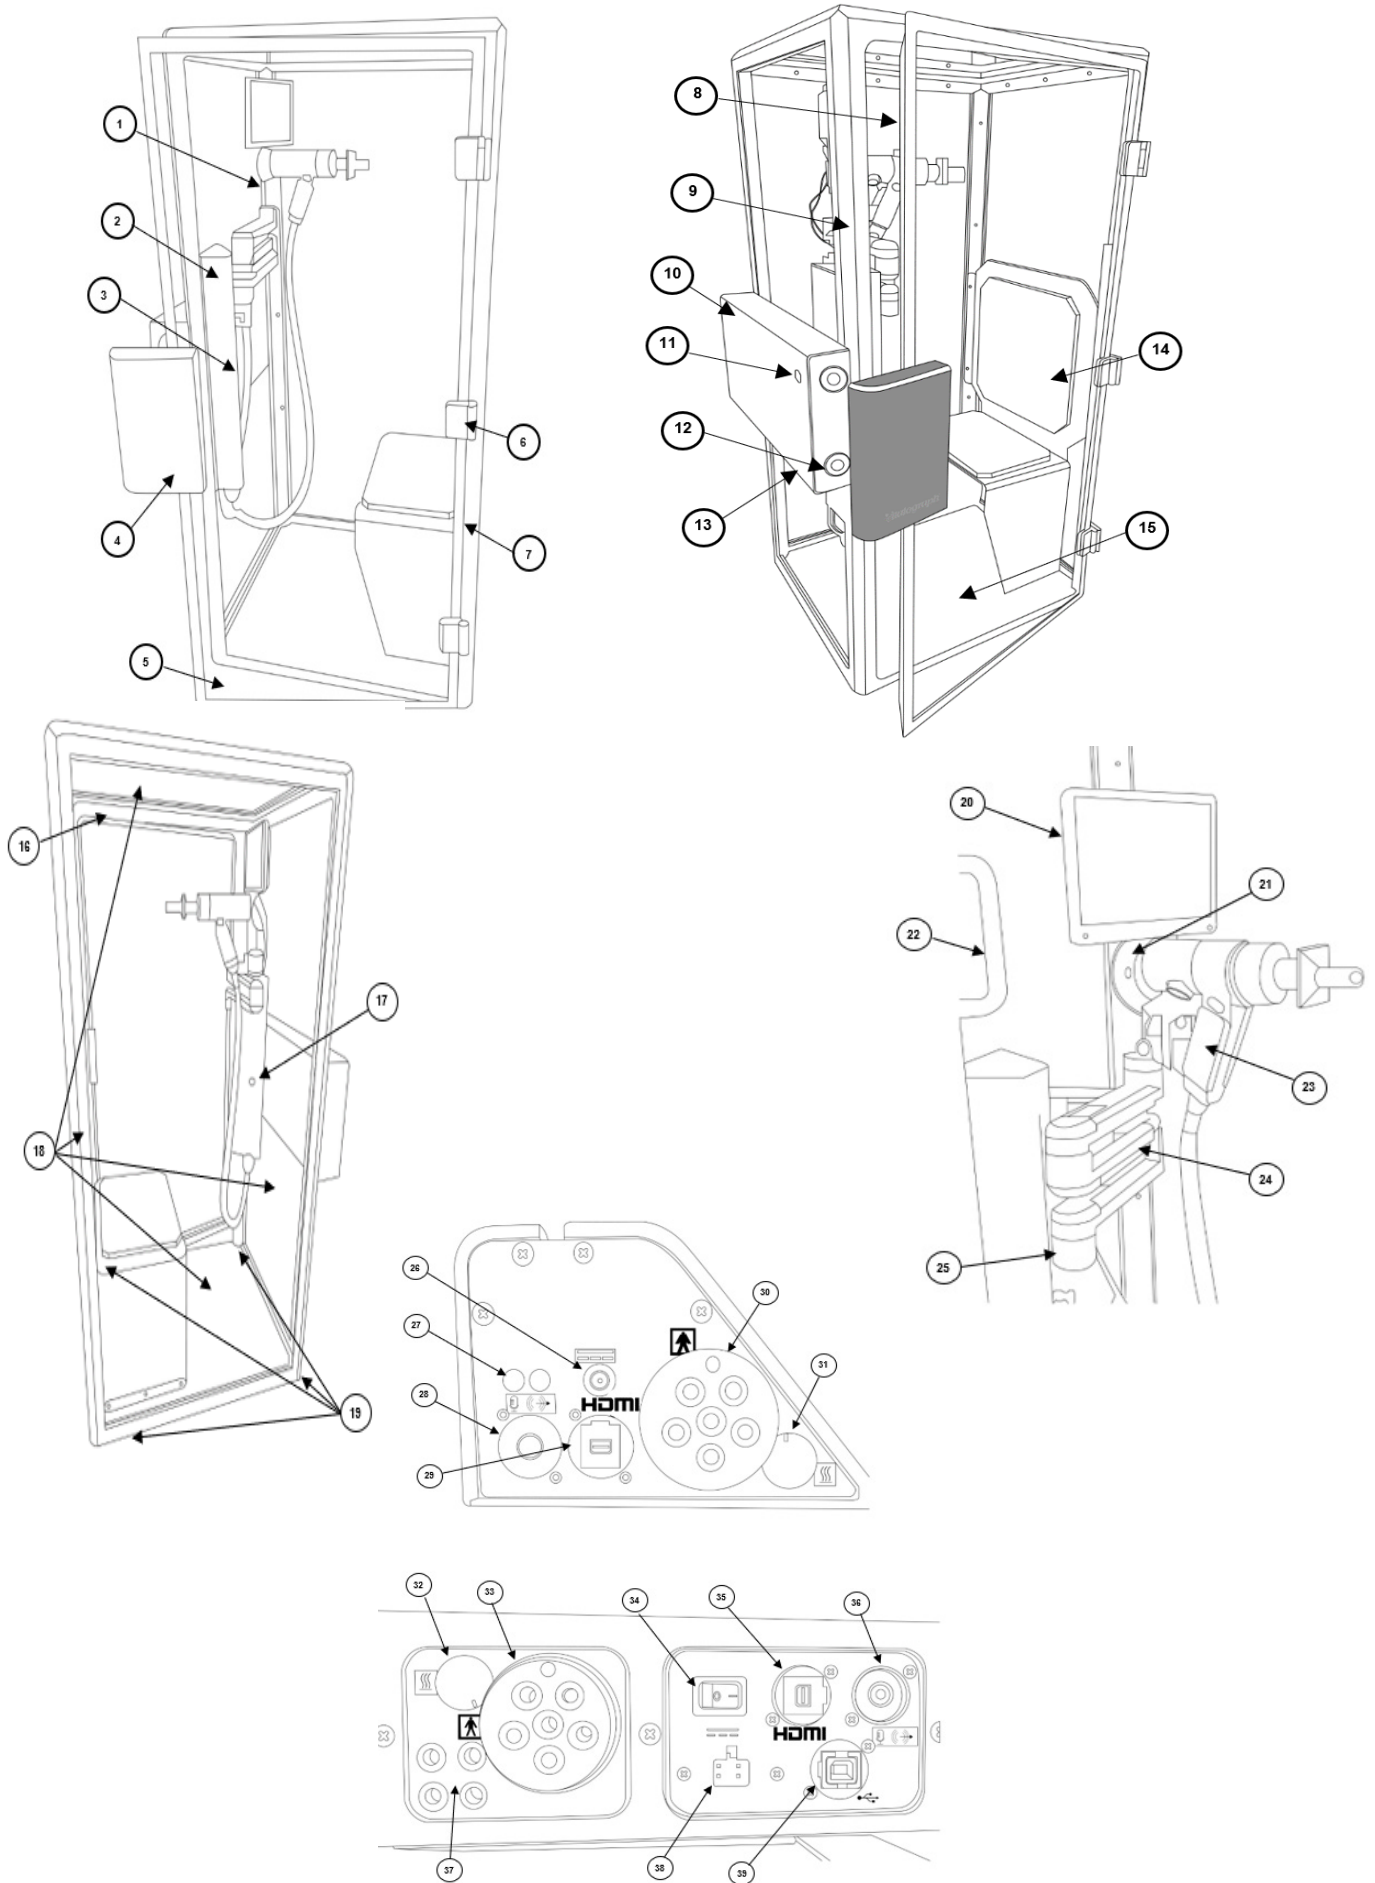
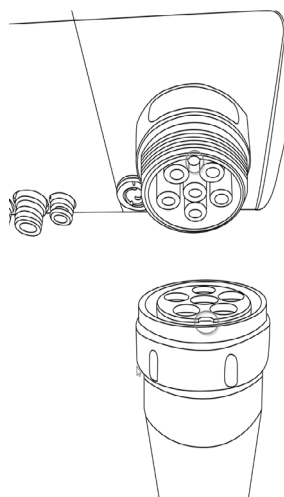
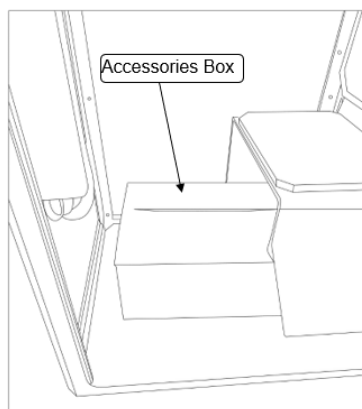

Figure 1- Main Components of the VitaloQUB
Figure 8: Alignment key shown on Bulkhead Connector
Figure 10: Accessories Box
5. Fit the supplied height adjustable feet x4 (19) to the underside of the device.
9. Remove Patient Valve Control Arm from the Accessories Box (Figure 10) which is located under the seat inside the unit and attach the Patient Valve Control Arm (24) to the Patient Valve Control Arm Holder (25) using the supplied attachment on the Patient Valve Control Arm (24). Four M5 screws are used to secure the arm in place.
12. Connect the DC Power Cable to the back of the Monitor (20) and then connect the other end to item 26 (figure 1) on the underside of the Internal Enclosure (2). This cable is pre-assembled to the Patient Valve Control Arm (24).
13. Connect the HDMI Cable to the back of the Monitor (20) and then connect the other end to item 29 (figure 1) on the underside of the Internal Enclosure (2). This cable is pre-assembled to the Patient Valve Control Arm (24).
14. Connect the cable of the Speaker/Mic from the Intercom System (21) to the sound jack port to item 28 (figure 1) on the underside of the Internal Enclosure (2).
15. Connect the Patient Valve to the underside of the Internal Enclosure (2) by attaching the Bulkhead Connector to item 30 (figure 1) and place the handheld part of the Patient Valve in the Patient Valve holder (23). As in Figure 8, ensure that Bulkhead Connector alignment key is aligned correctly to the connector on the underside of the Internal Enclosure (2). The Bulkhead Connector must be screwed on fully to ensure a leak-tight fit.
16. Plug in the Heater Connector cable beside the Bulkhead Connector to item 31 (figure 1), aligning the white line on the connector with corresponding white line on connector on the underside of the Internal Enclosure as in Figure 9.
18. Connect one end of the Tubing Umbilical and the Heater Plug which is supplied in the Accessories box (figure 10) in the VitaloQUB to the underside of the External Control Module (10) to items 32 and 33 (figure 1) and connect the other end of the Tubing umbilical and Heater Plug to the back of the paired device taking note of the instructions in figure 8 and figure 9.
19. Connect the USB Cable (supplied in Accessories Box) to item 31 (figure 1) on the underside of the External Control Module (10) and connect the other end to the back of the paired device.
20. Connect the Audio Cable (supplied in Accessories Box) to item 36 (figure 1) on the underside of the External Control Module (10) and connect the other end to the back of the main Intercom/Speaker System module (also supplied in the Accessories Box). This main Intercom/Speaker Control module must be connected to a mains power outlet using the provided power supply.
21. Connect the power supply (supplied in Accessories Box) to item 38 (figure 1) on the underside of the External Control Module (10) and then plug the mains plug into a suitable mains socket. Turn on the Main Power Switch (34) on the underside of the Control Module (10). The LED (13) on the External Control Module Door will light up to indicate power in the device.